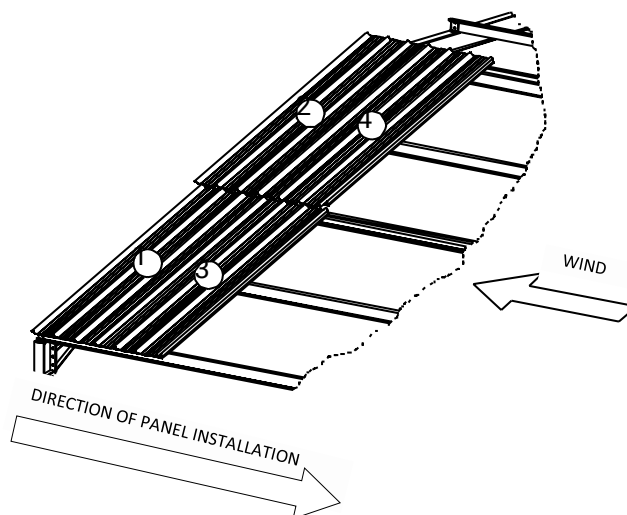

fig.1
**a.** Installation of roof sandwich panels should begin from a roof edge and should be continued in the direction opposite to prevailing winds. Such arrangement of panels provides additional protection against penetration of wind-driven rain into panel joints (Fig.1)